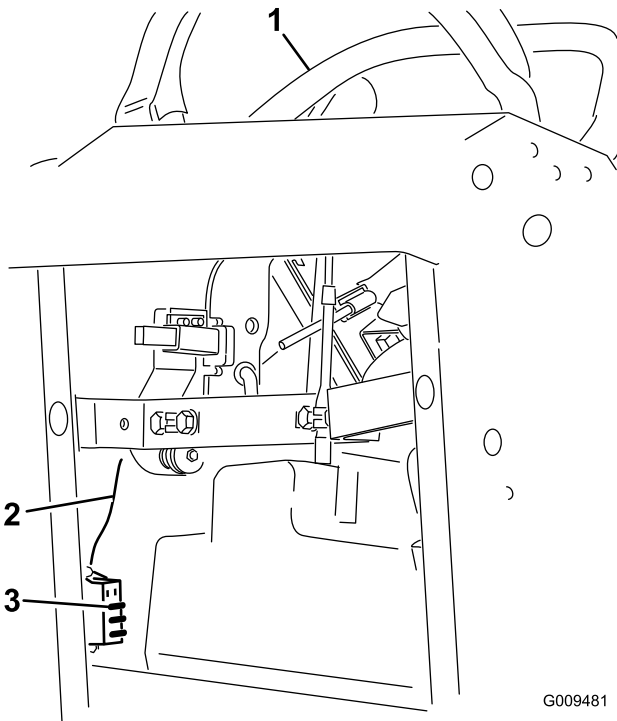

Figure 54
2. Pull out on the fuse to remove or replace it (Figure 54).
Note: Ensure the correct size fuse is install with the correct wire color as shown in Figure 54.